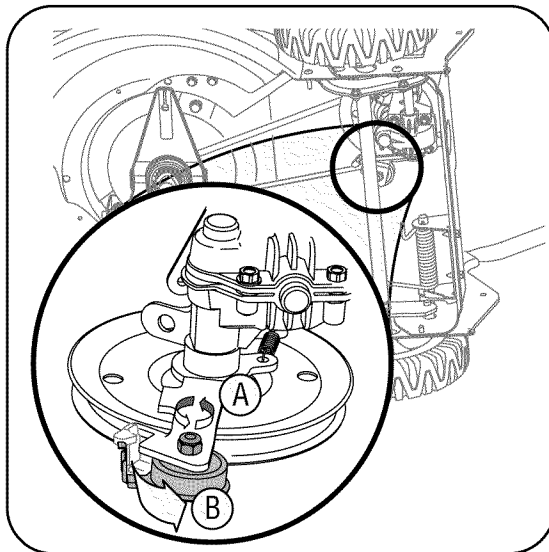

Figure 18
7. Tilt the transmission forward and loosen the idler pulley bolt and lock nut half a turn. See Figure 18.